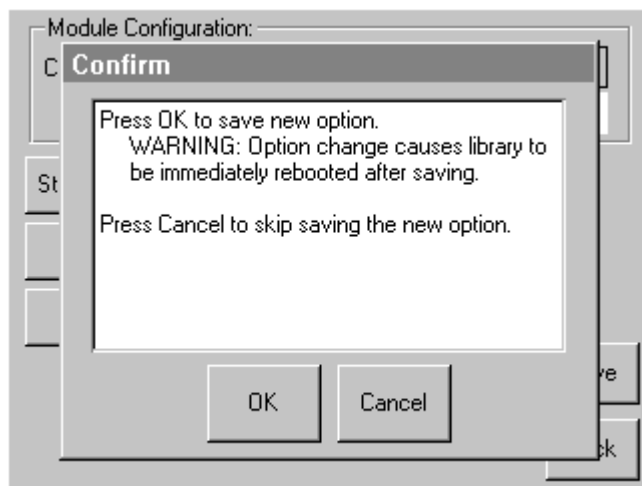

Figure 29 Module Configuration confirmation screen
7. Touch **OK** to save the new option. Afterwards, the library will automatically reboot and be configured for the new option (see Figure 29).
7. Touch **OK** to save the new option. Afterwards, the library will automatically reboot and be configured for the new option (see Figure 29 on page 38).